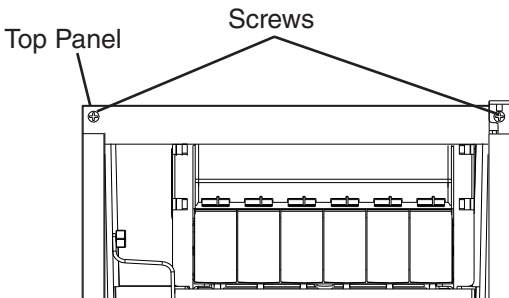

Fig. 11
- a) Contact your local distributor to purchase Hoshizaki Kit HS-0229. The kit contains "hinge (A)-left."
- b) Remove the 2 screws securing the top panel, then lift it off. See Fig. 11.